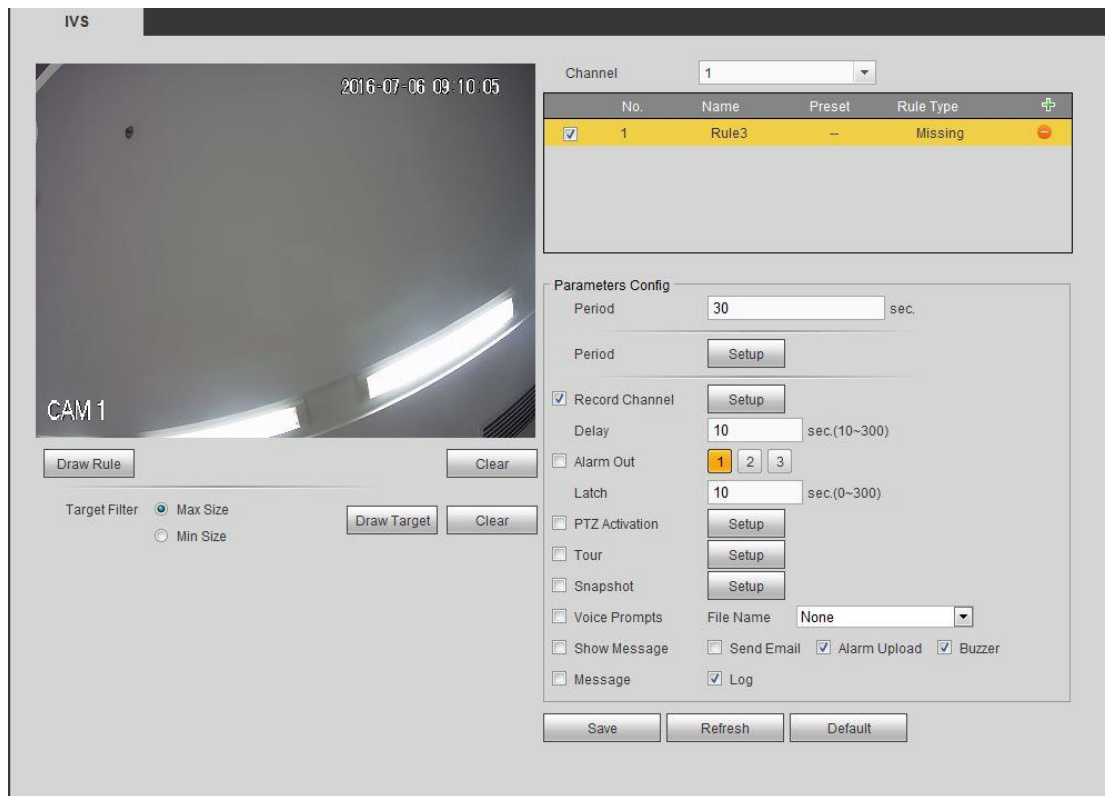

Figure 5-90
Step 2 Check the missing object detection to enable missing object detection function. See Figure 5-90.